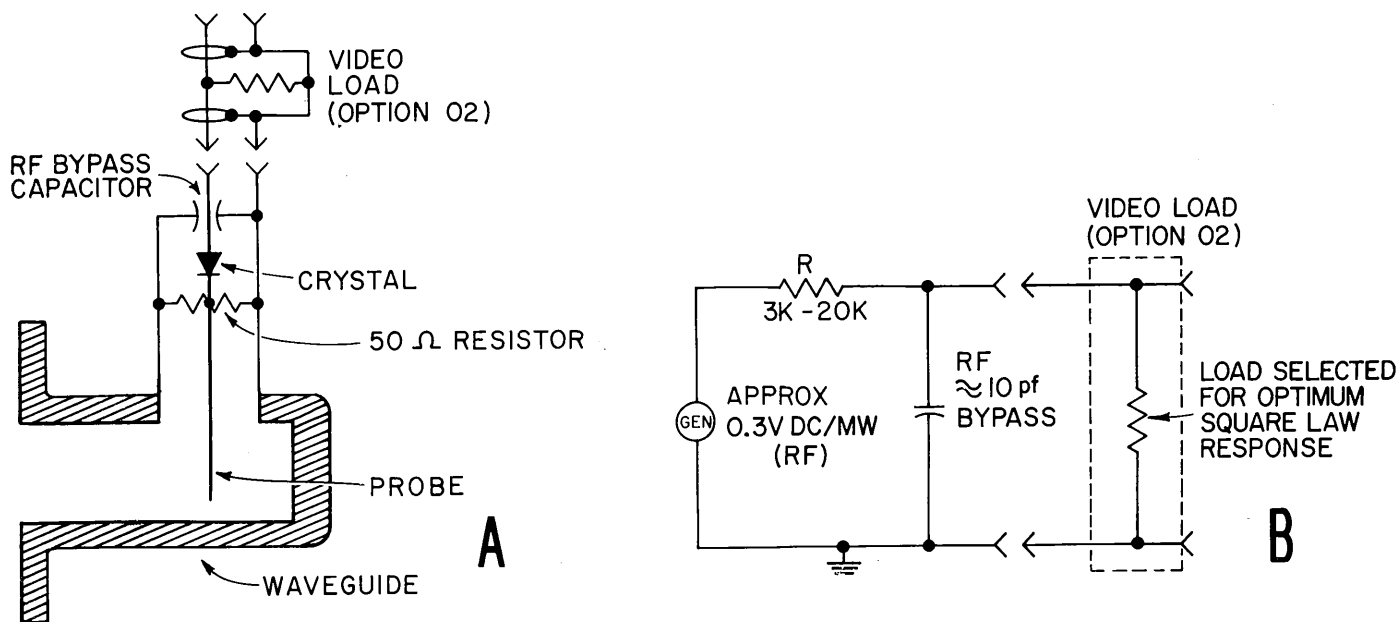

Figure 5. Arrangement of Model 424A and Equivalent Circuit
34. Arrangement of the Model 424A and equivalent circuit is shown in Figure 5. The crystal may be considered as a voltage generator with an internal resistance of about 3k to 20k ohms and a shunt capacitance of approximately 10 pF. The video load (option 02) is selected to obtain optimum square-law performance for outputs up to 50 mV.